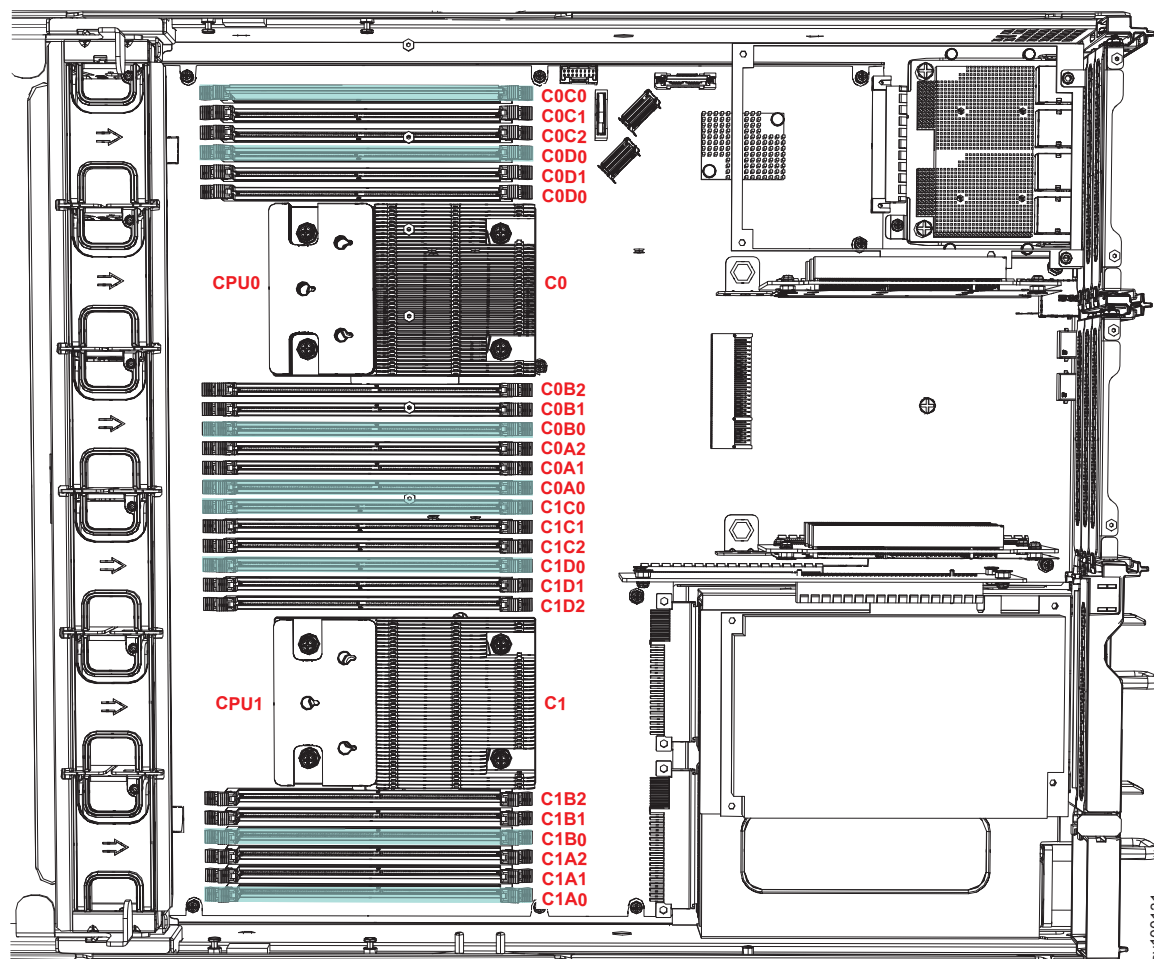

Figure 106. Locations of the DIMM connectors on the system board
- Refer to Figure 106 on page 130 to locate the dual inline memory module (DIMM) that you want to replace.